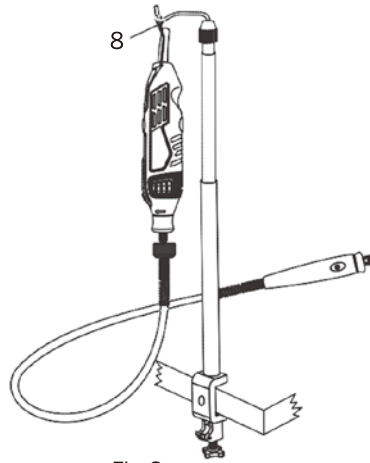

Fig. 8
6. Insert the rotary tool hanger (7) into the top of the hang bar rod.
7. Using the hang loop on the rotary tool (8) hang rotary tool from the stand (Fig. 8).